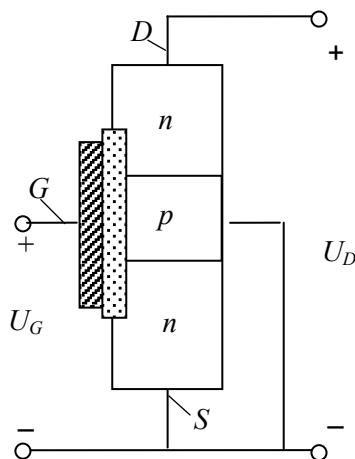
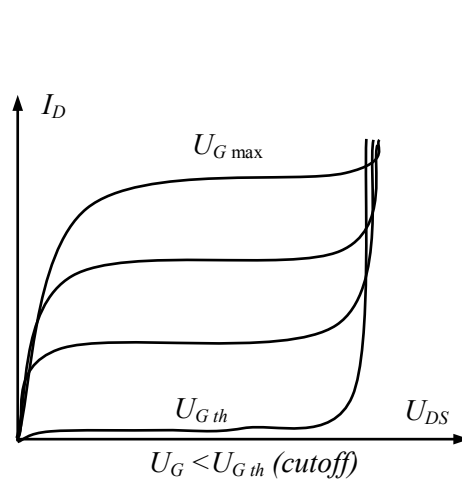

Fig. 1.39
Fig. 1.41
**Enhancement-mode MOSFET.** Figs. 1.39 and 1.40 display an  $n$ -channel *enhancement-mode MOSFET*. These devices have revolutionized the electronics industry. Because there is no longer an  $n$  channel between the source and the drain, an enhancement-mode MOSFET is normally off when the gate voltage is zero, whereas a depletion-mode device is normally on. When the gate voltage is positive enough, electrons fill all the holes touching the silicon dioxide. The effect is the same as creating of a thin layer in  $n$ -type material next to silicon dioxide. This conducting layer is called an  $n$ -type *inversion layer*. The normally off device suddenly turns on and free electrons begin to flow easily from the source to the drain. The minimum  $U_{GS}$  that creates the inversion layer is called a *threshold voltage*,  $U_{Gth}$ . Figs. 1.41 and 1.42 reflect a set of drain curves and an input curve for an enhancement-mode MOSFET, where the vertex (starting point) of the transconductance parabola and lowest drain curve are at  $U_{Gth}$ .